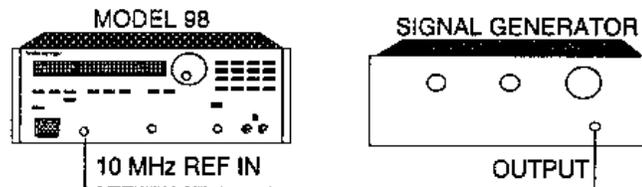

Figure 2-7. Reference Input Verification
2. Connect the Model 98 and test equipment as shown in figure 2-7.